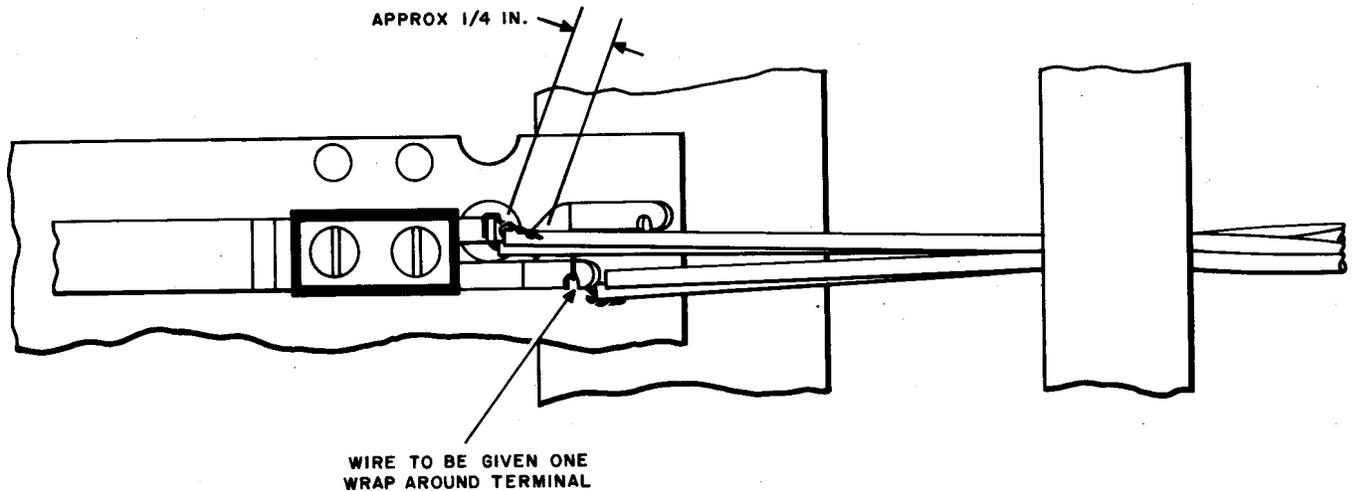

Fig. 12—Temporary Cross-Connections on Protectors
**9.01** It is often necessary to make use of temporary (back-tap) cross-connections when making transfers or rearrangements. Figures 12 through 17 show the methods for terminating these cross-connections on terminals arranged for soldered connections.
**9.06** On protectors or jacks, leave a short tail of wire on the permanent jumper at the terminal (Fig. 12). Connect the temporary jumper to the tail by twisting the wires together and soldering. Cut the twisted connection to about 1/4-inch and bend the twisted connection back along the jumper to avoid snagging.